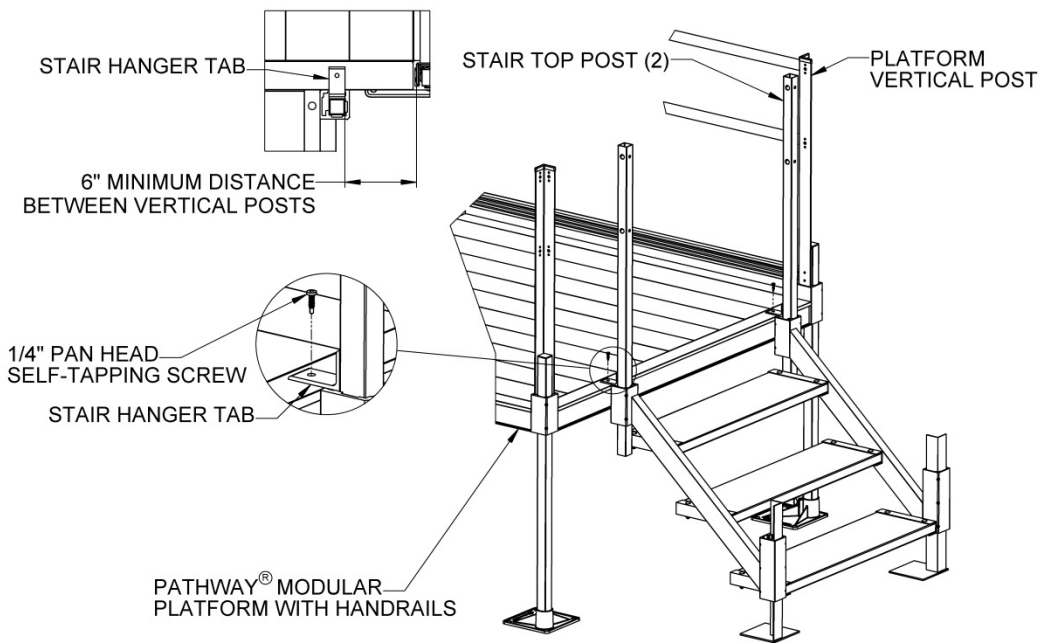

FIG. 7
- 3.4. Make sure the stair assembly is positioned flush against the platform side rail and use the holes in the stair hanger tabs as a template to drill 1/8" holes through the top wall of the side rail. Fasten the stair assembly to platform using two provided 1/4" pan head self-tapping screws (FIG. 7). NOTE: If the stair will be used with a Connector – HR Platform to Stair (MHRPSC), a minimum of 6" is required between the platform vertical post and stair top post.